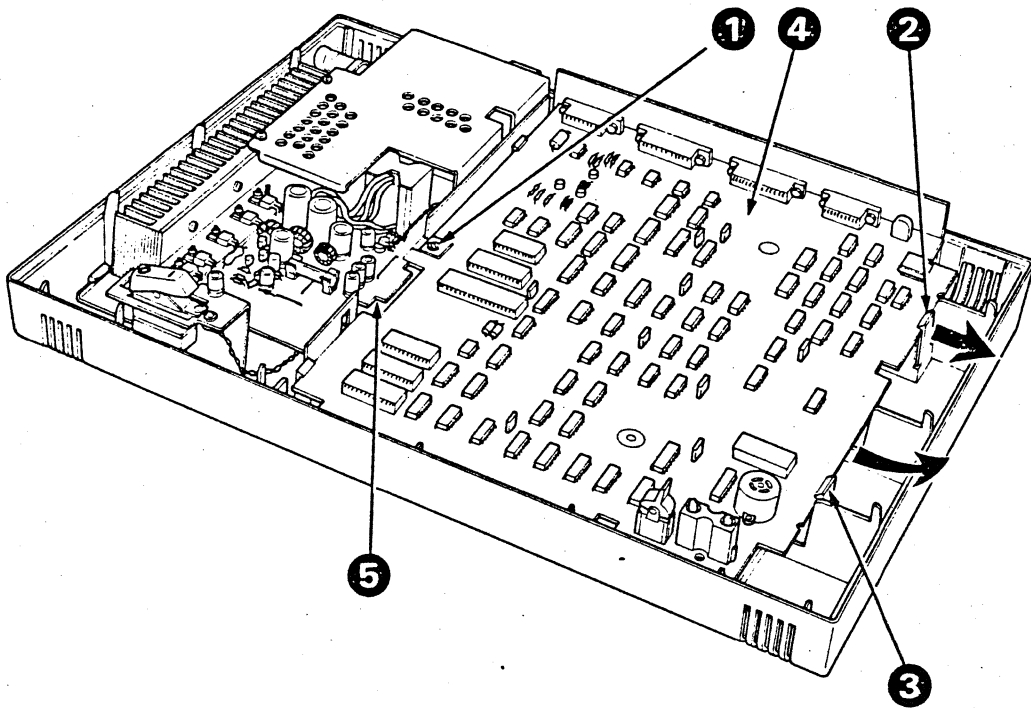

Figure 4-2. Logic Board Assembly
2. Remove the screw ① connecting the Logic board and power supply frame (see Figure 4-2).
3. Disengage the plastic tabs ② and ③ and raise the Logic board just clear of the tabs.
4. Pull the Logic board ④ from the connector ⑤, then lift it clear of the unit.